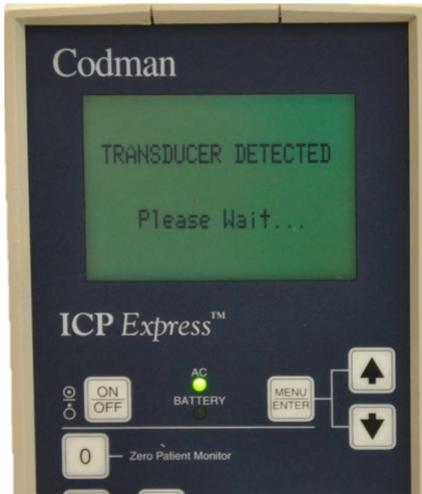

Figure 6: Transducer has been detected
- As soon as the Microsensor™ is connected, “Transducer Detected” will appear on the screen (Figure 6).